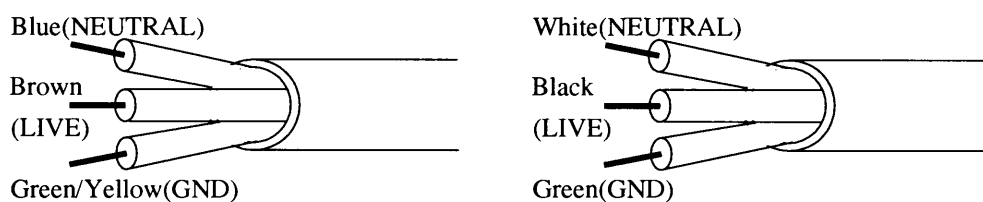

Fig. 1
- ☐ Power Cable: to 3-core cable (See Fig. 1 for the colors.)
To connect the AC plug to the AC power cable, connect the respective pins of the AC plug to the respective core-wires (LIVE, NEUTRAL, and GND) of the AC power cable by referring to the color cables shown in Fig. 1.